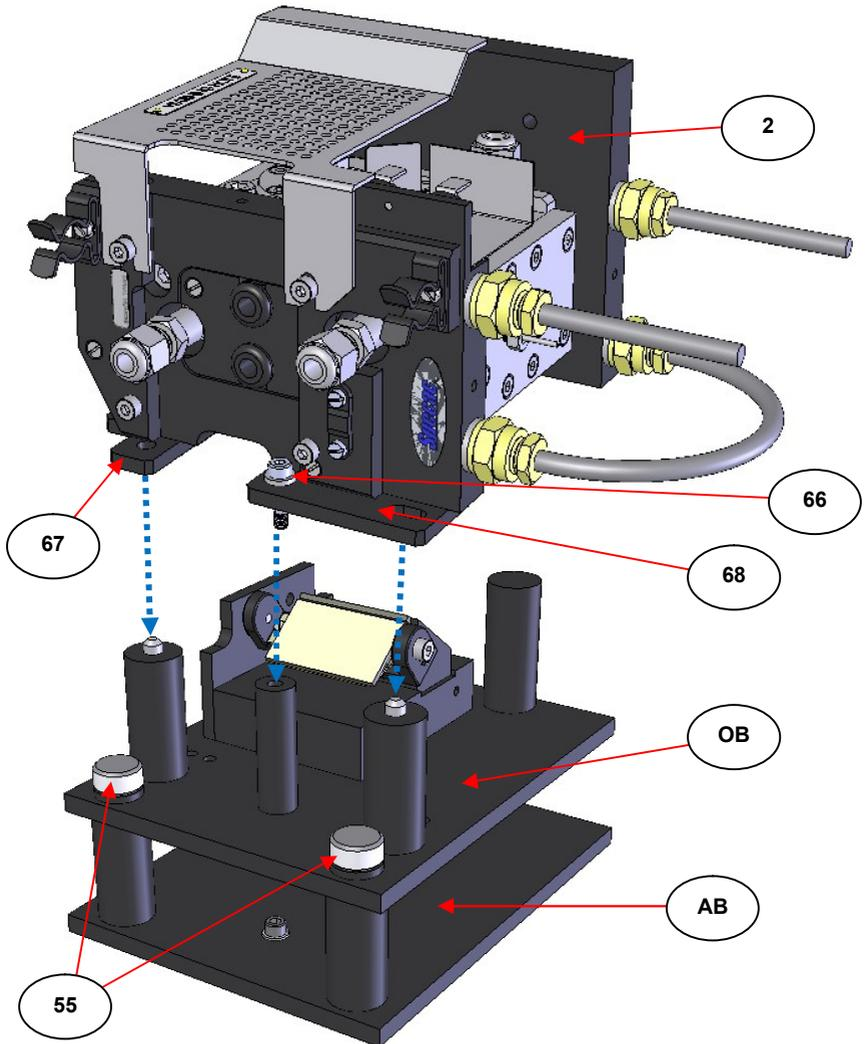

Fig 15. Orientation of the HTHP Cell When Fitting to a Right to Left Beam Direction Spectrometer Reflectance Baseplate Assembly
Fig 15. shows that the complete HTHP Cell assembly is oriented over onto its side such that the fitted side support bracket (67) and short side support plate (68) parts are lowered to make contact onto the line of three support pillars of the optical baseplate (OB) assembly. The central fixing screw (66) fitted to the support plate (68) engages with the central pillar to screw into and pull the HTHP cell down tightly and securely, whilst the round hole location in the support bracket (67) and slot location in the side support plate (68) fit over their corresponding pins on the side support pillars. The rear single pillar on the optical baseplate (OB) is a support for the HTHP Cell assembly which should rest on this pillar from the edge of the lower water cooled plate (2) when the side support plate (68) has been tightened securely to the optical baseplate (OB) via the fixing screw (66).